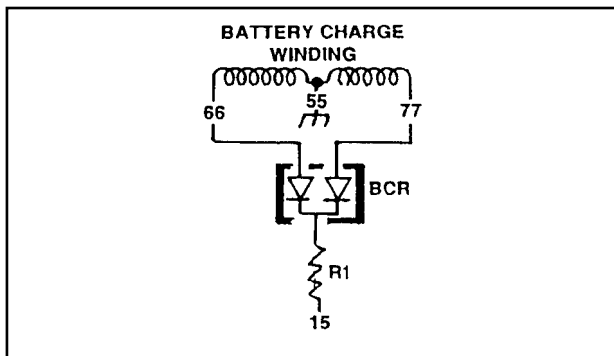

Figure 3. Battery Charge Windings and Rectifier
1. Disconnect the 2-pin connector from "J5" of the A6060 circuit board. See Figure 3.